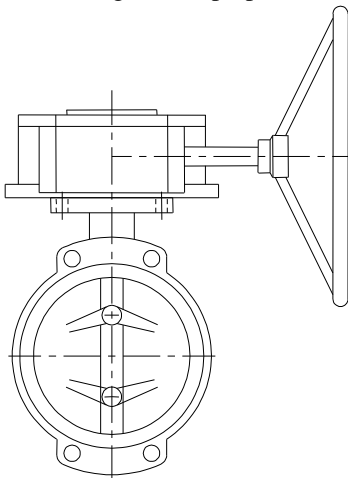

figure 2 : Gearbox perpendicular to the valve
8. Mount the gearbox perpendicular to the valve (see figure 2).